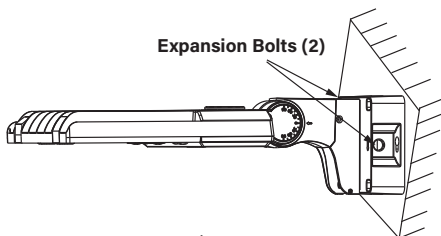

Figure 12
6. Mount the kit, with the fixture attached, on to the expansion bolts and secure with the nuts from Step 2. (Figure 12)